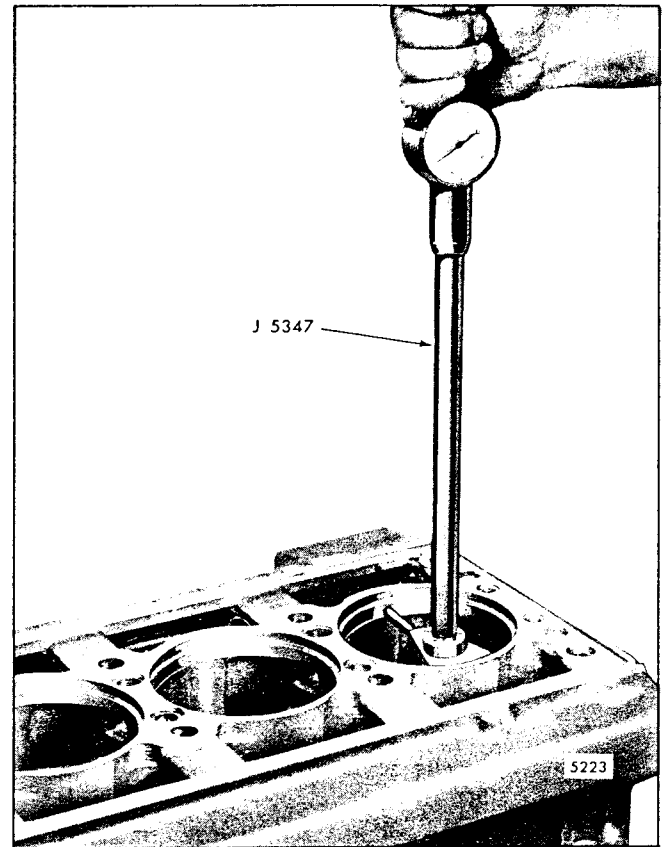
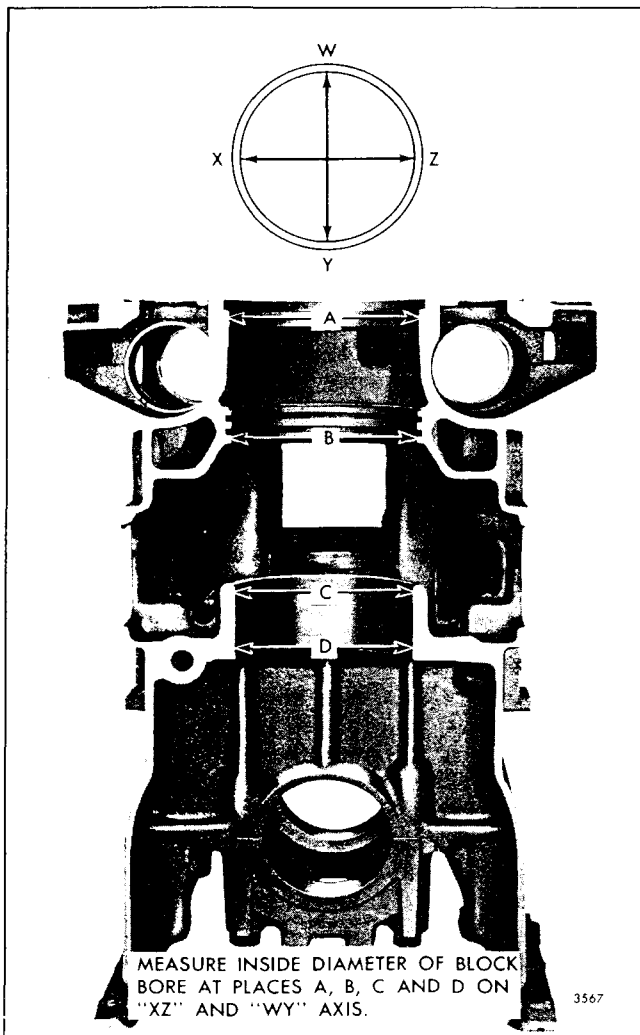

Fig. 12 - Checking Cylinder Block Bore with Tool J 5347
Fig. 13 - Block Bore Measurement Diagram
b. Measure the entire bore of each cylinder with cylinder bore gage J 5347 (Fig. 12) which has a dial indicator calibrated in .0001 " increments. Use dial bore gage setting tool J 23059 to preset the cylinder bore gage to zero. Measure each block bore at the positions indicated in Fig. 13, on axis 90 ° apart. If the diameter does not exceed 4.5235 " at position "A", 4.4900 " at position "B" (and a sealing problem hasn't occurred), or 4.3595 " at position "C" and "D", then the block may be reused. Also, the taper and out of round must not exceed .0015 ".